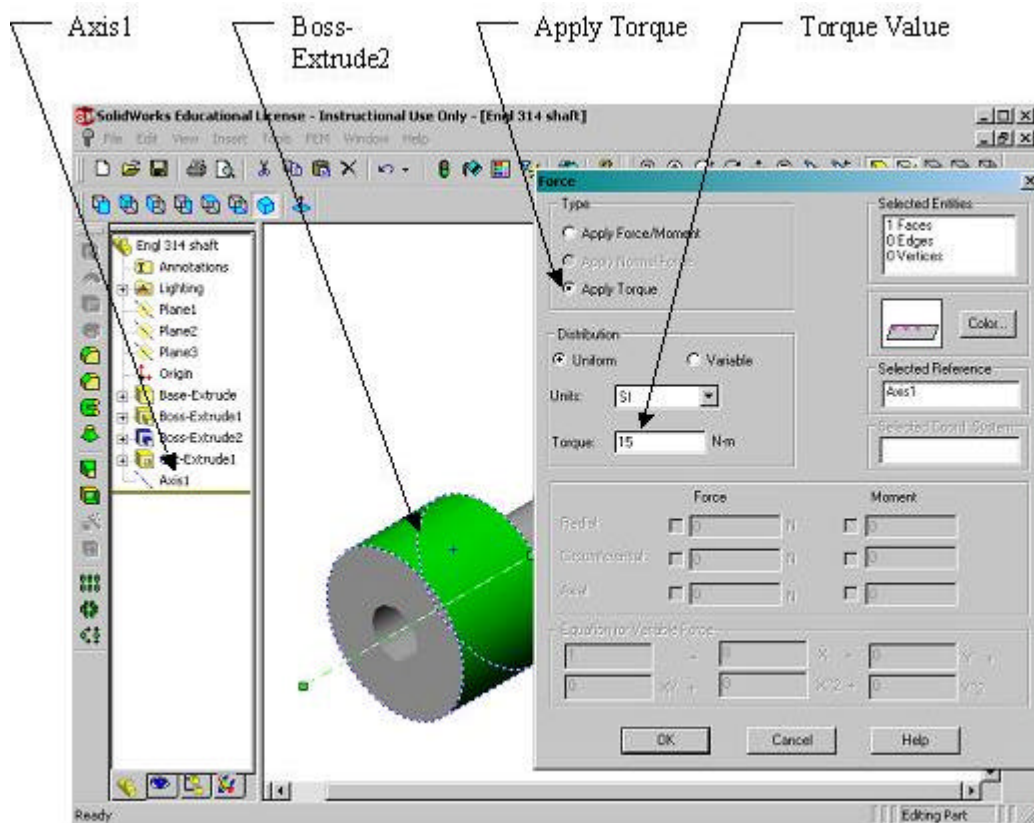

Figure 2.2
7. Click on the new axis, **Axis1**, using the tree on the left side of the screen (refer to Figure 2.2). Then, while holding down the control key, select the outer surface of the largest shaft (the same one selected in the previous few steps).